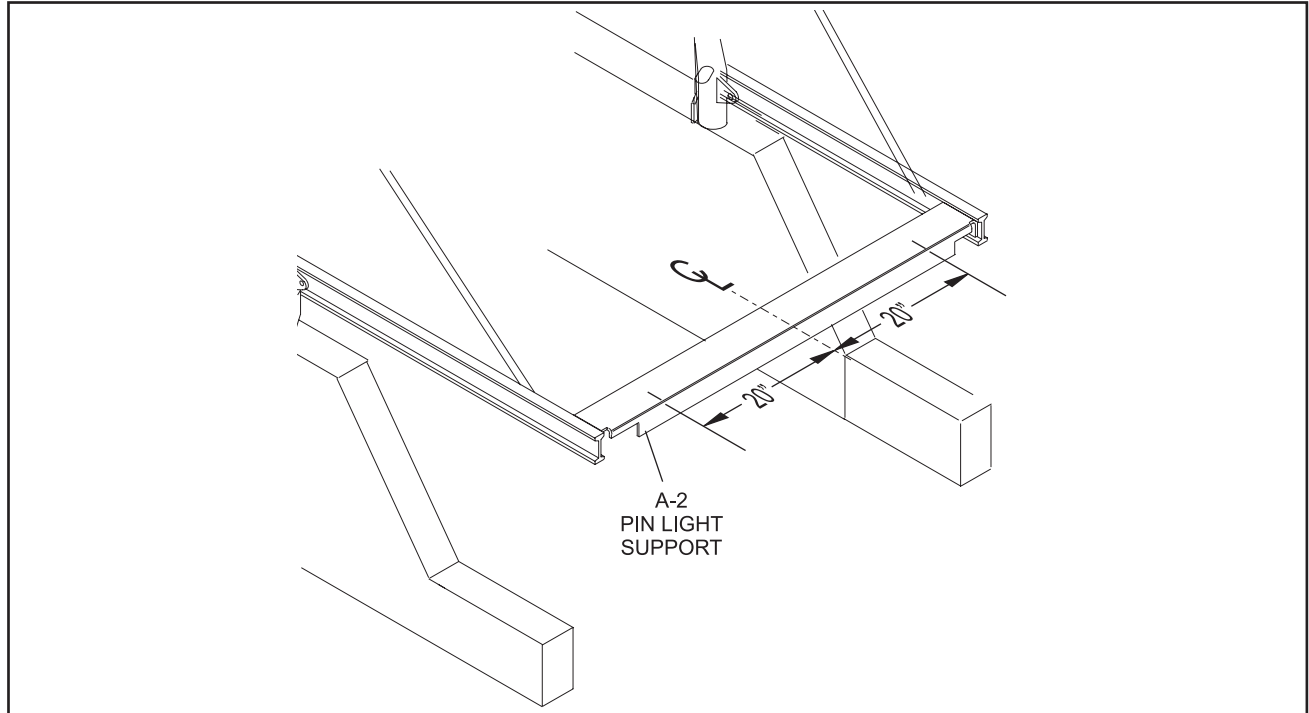

Figure 5
1. Find the center of the existing A-2 pin light support. Refer to *Figure 5*.
2. Position 1 bracket (12-610001-000) 20" to the left of the center line of the pin light support and one bracket 20" to the right of the center line of the pin light support. Bracket must extend toward foul line. Refer to *Figures 5 & 6*.